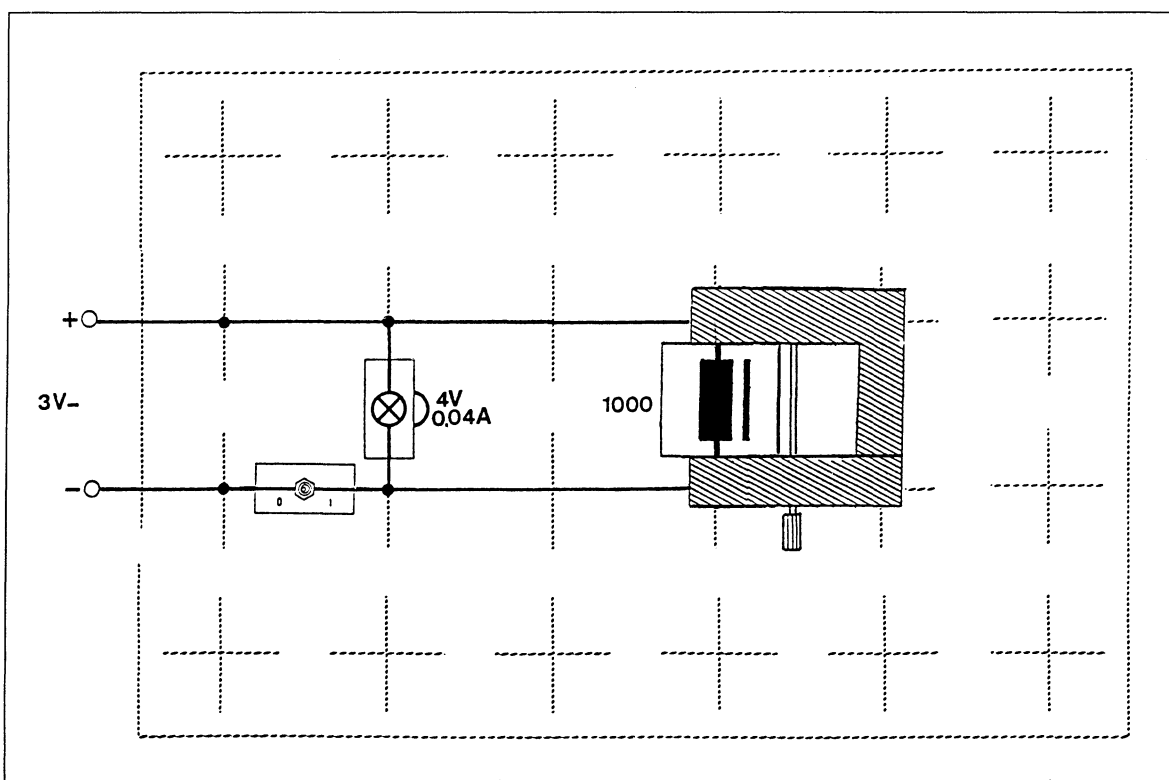

Fig. 1 Experiment setup: self-induction of a coil
1. Set up the circuit as shown in Fig. 1. Make sure the switch is in the 0 position (open).